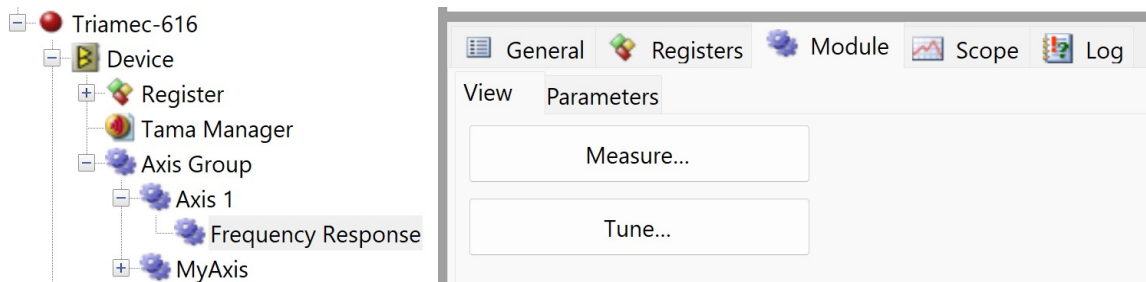
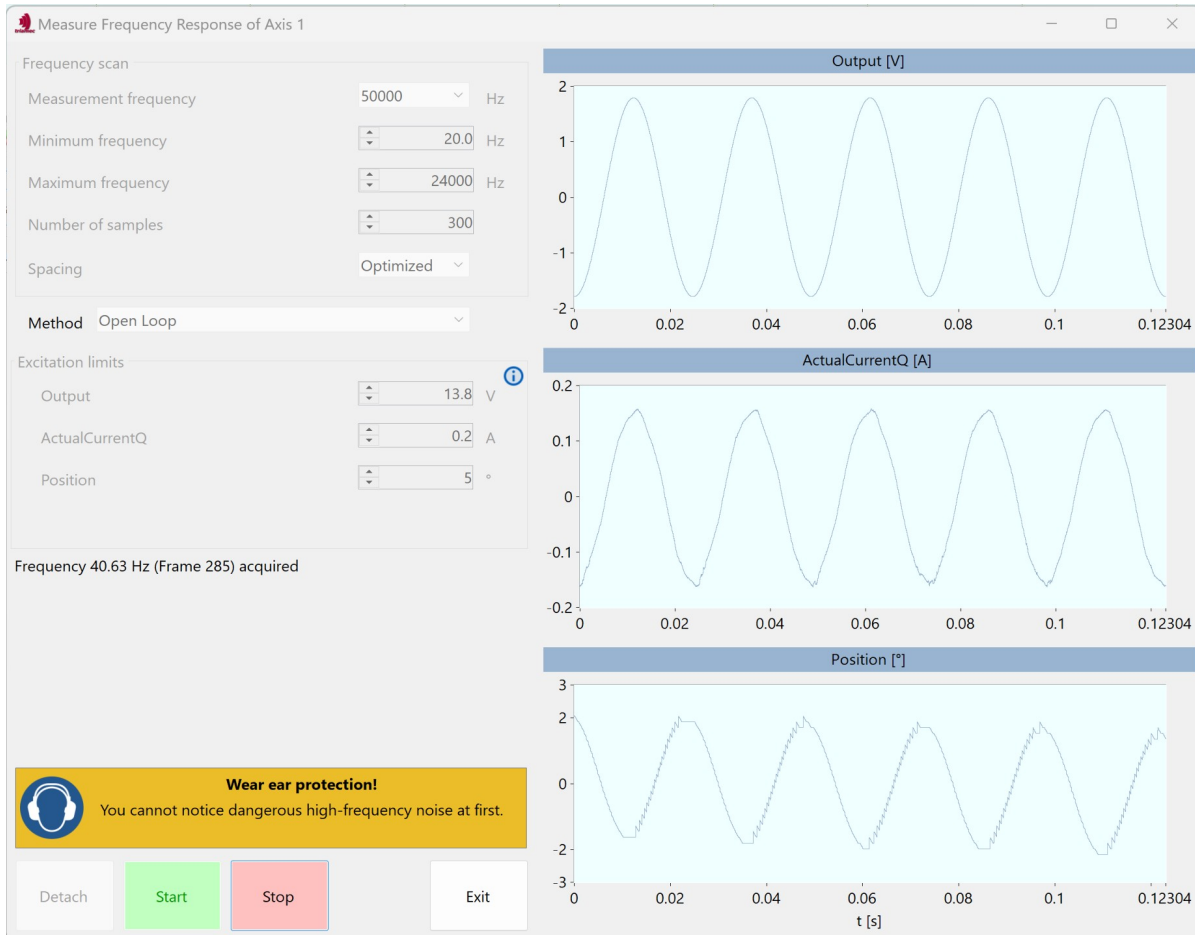

Figure 35: Frequency Response module.
Figure 36: Frequency Response measurement application.
To start the measurement click the **Measure...** button (Figure 35). This opens the window with the application as shown in Figure 36.
- To open measurements in the editor click **Tune Controllers...** (Figure 35).